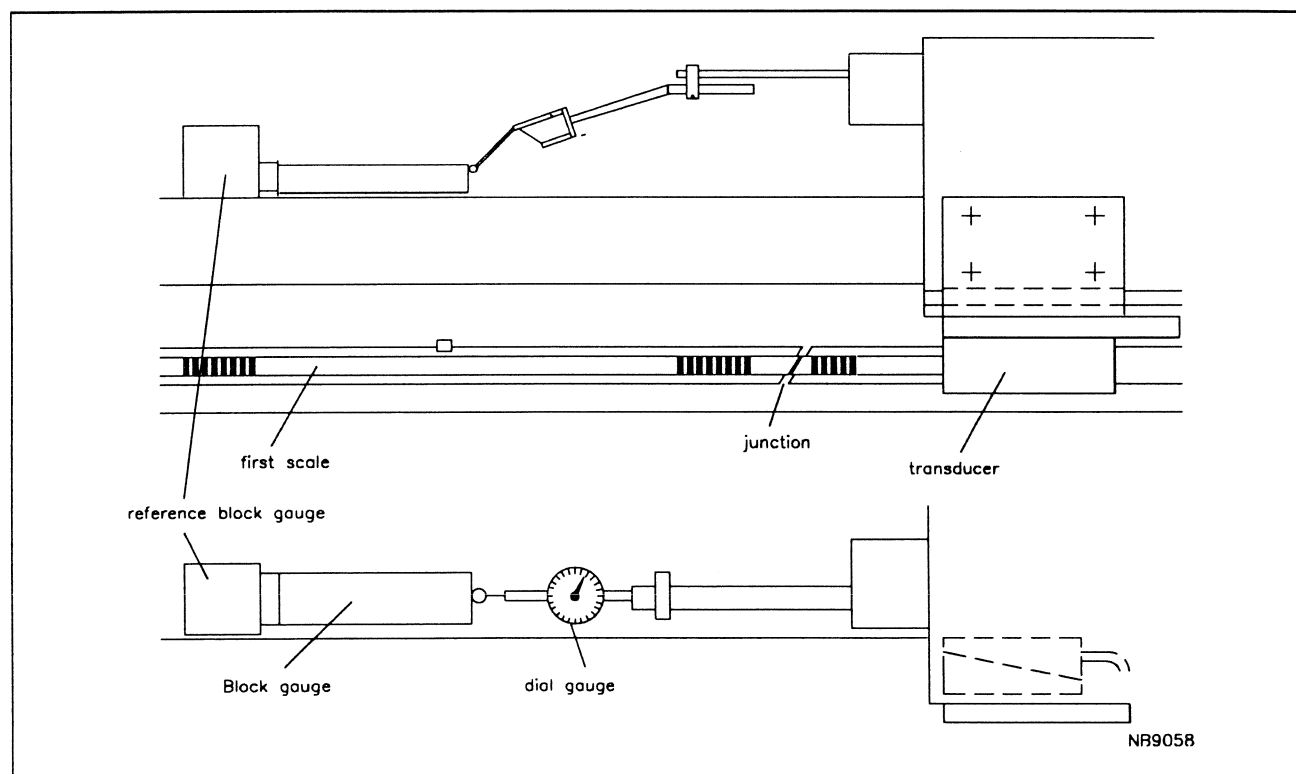

Fig. 30 Final adjustment using block gauges
- Approach reference block gauge by moving the slide to the left and set the dial gauge to read zero (see figure 30)
- Move the slide to the left until the dial gauge makes contact with the end of the second block gauge and reads zero (see figure 30).